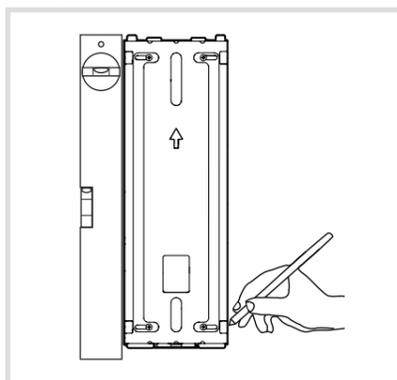

Fig. 19: Drawing on the hollow-wall installation housing
- Hold the hollow-wall installation housing in the correct position at the mounting location with the arrow ↑ pointing upwards, align it with a spirit level and draw it onto the wall (Figure 19).